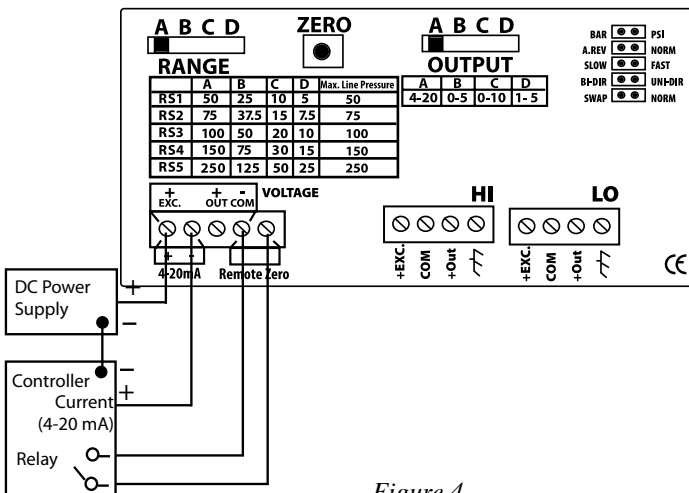

Figure 4
**Auto Zero Button:** Press and hold the “ZERO” push-button for 2 seconds to automatically reset zero or provide contact closure on “Remote Zero, see figure 4, pg. 7, and figure 5, pg. 8. Sensors must be vented to atmosphere.